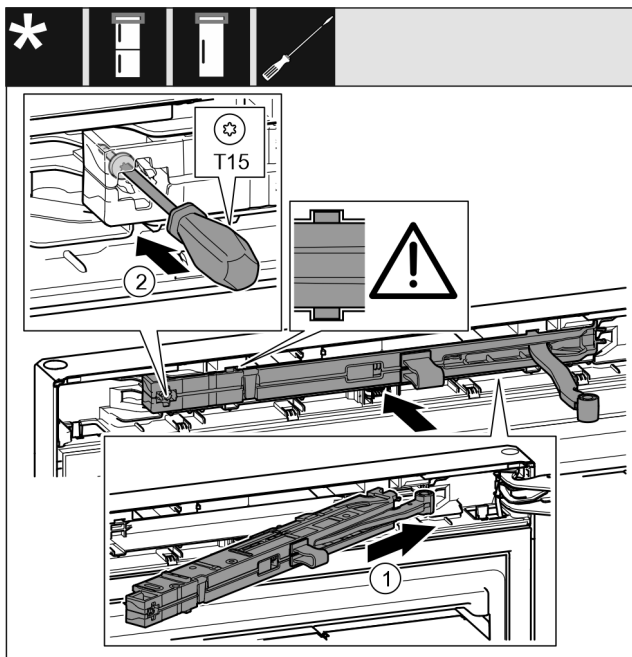

Fig. 44
- ▶ On the swap bearing block side, slide the closing damper unit *Fig. 44 (1)* into the recess at an angle up to the stop.
- ▶ Use a screwdriver to tighten the screw *Fig. 44 (2)*.